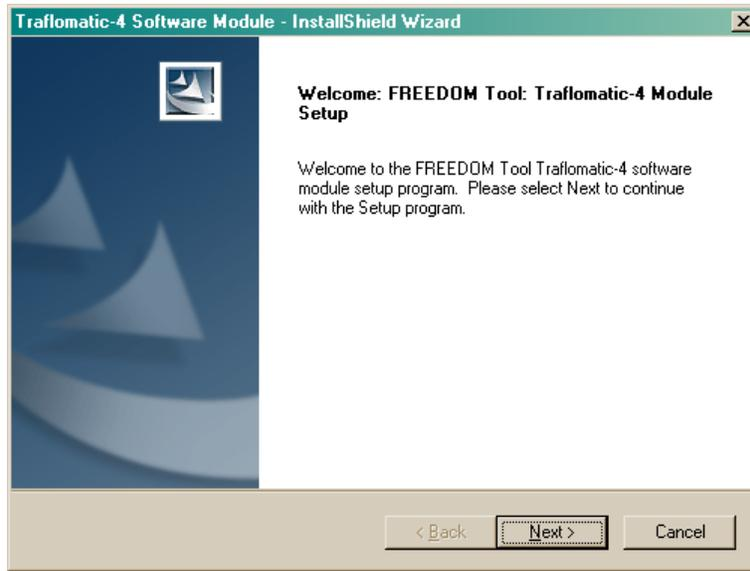

Figure 14
2. After selecting the **Install** pushbutton associated with the Trafromatic-IV section of the FREEDOMWare Installer, the Install Shield Wizard will run showing a window similar to the one shown in Figure 14. To continue with the setup of the Trafromatic-IV software module simply click the **Next** pushbutton with the PC's pointing device.